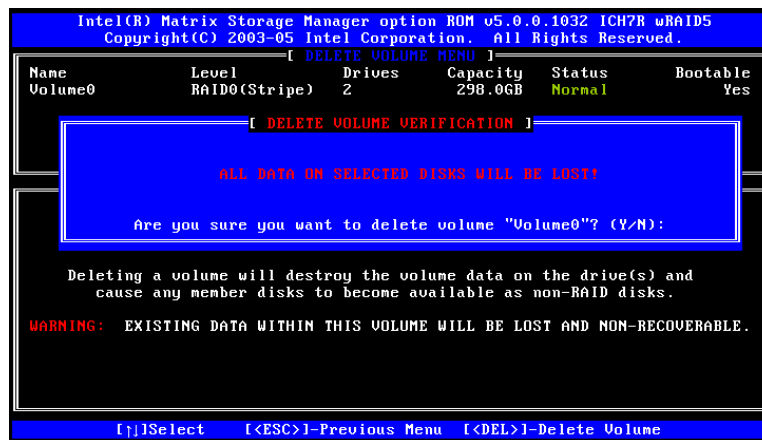

Figure E-10: Delete Volume Verification
Step 3: Delete Volume Verification. After reading the warning, press **Y** to delete the specified RAID volume, or **N** to return to the **Delete Volume** menu. See Figure E-10.